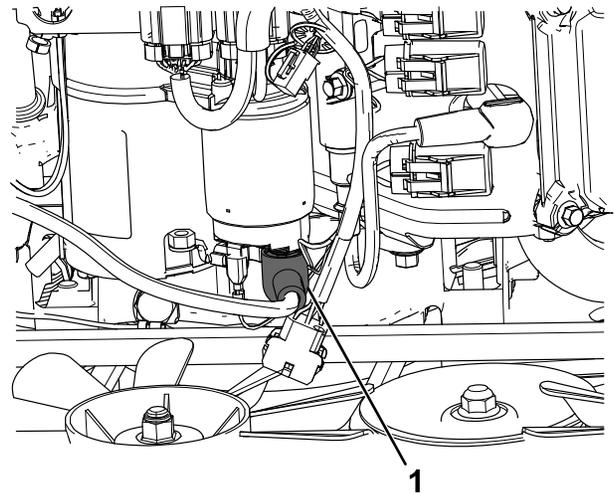

Figure 8
6. Remove the rubber cover from the starter post on the engine and remove the nut (Figure 8).
8. Install the ring from the new wire to the post and secure it with the nut. Install the rubber cover (Figure 8).